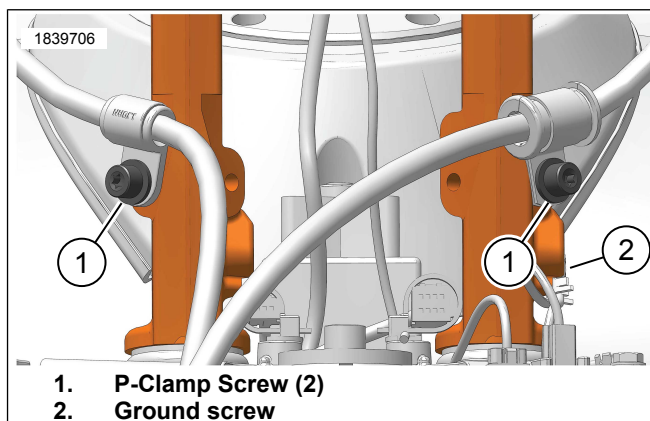
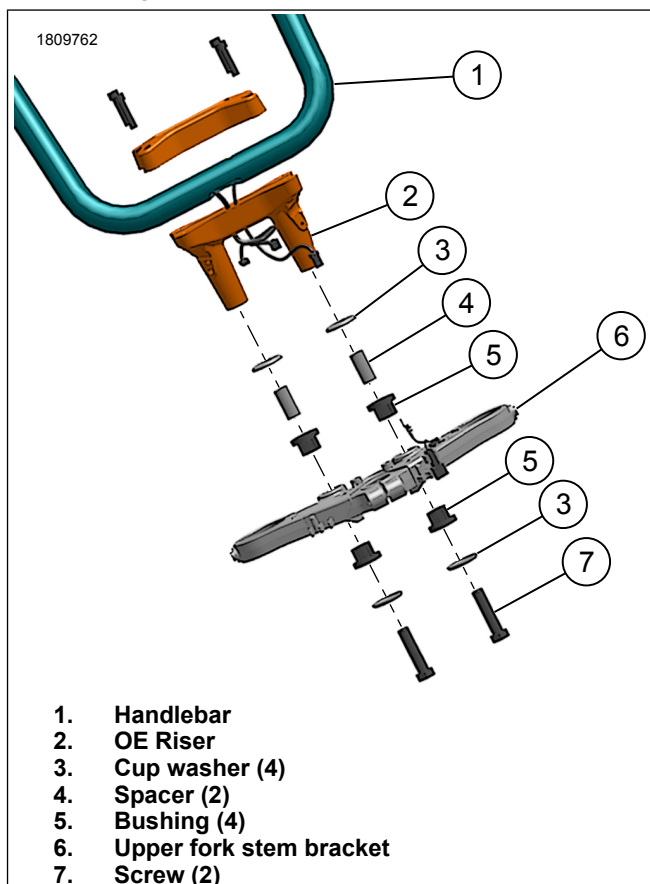

Figure 2. P-Clamp and Ground Screws
Figure 3. OE Handlebar Riser
2. See Figure 2. Remove and retain screws.
- a. P-Clamp screw (1).
- b. Ground screw (2).
4. See Figure 3. Disassemble riser assembly.
- a. Remove screws (7).
- b. Remove OE riser(s) (2).